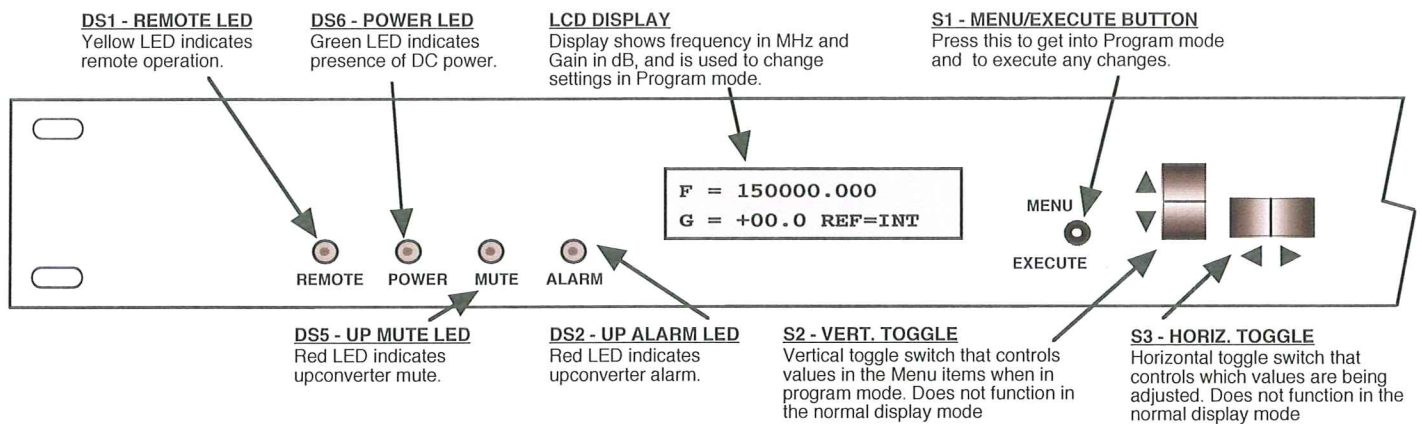

FIGURE 2.3 2015-154-130 Front Panel Controls and Indicators
2.3 Front Panel Controls and Indicators - Figure 2.3 shows the front panel controls and indicators.
7. Be sure DS6 (green, DC Power) is on and DS2 (red, Alarm) is off (Figure 2.3).